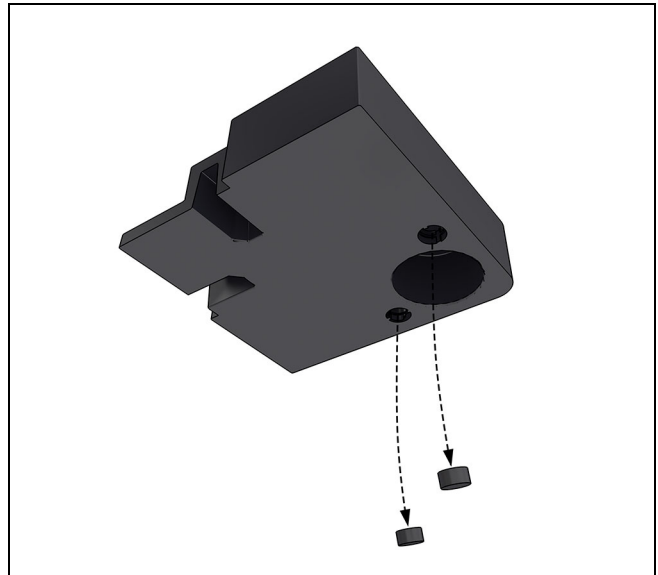

Figure 54
16. Knock out the bottom plug weeps on the exterior corner cover end cap with an awl or similar tool. See Figure 54.